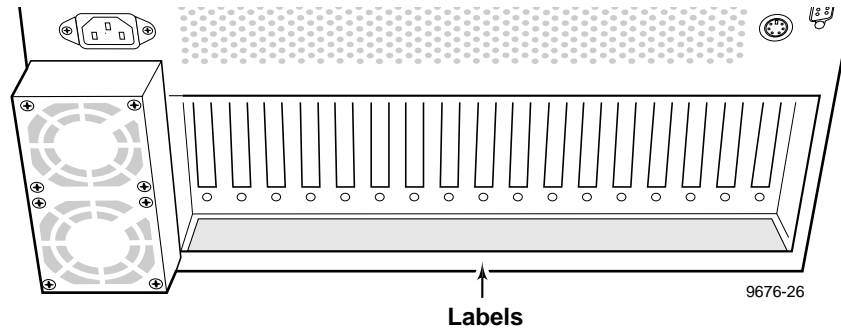

Figure 10. Stick-on label location
1. Apply stick-on labels on the Profile chassis rear panel to help identify all new board locations (see Figure 10).